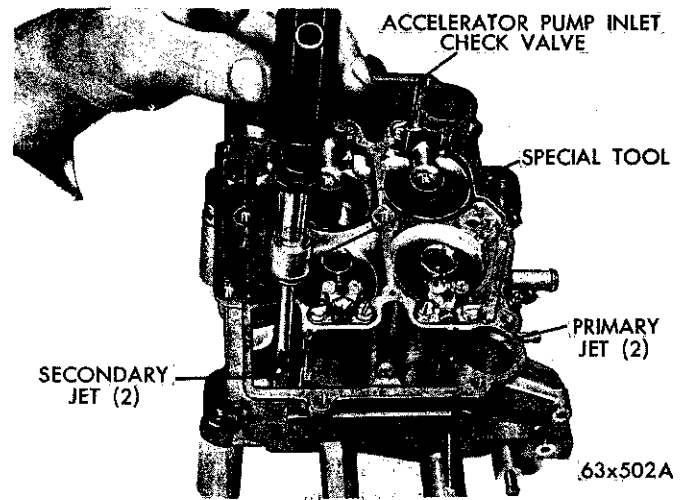

Fig. 4—Removing Main Metering Jets
(2) Using Tool T109-58 remove the main metering jets (secondary side), as shown in Figure 4.
(6) Install the primary and secondary main metering jets, using Tool T109-58. (See Fig. 4.) Tighten jets securely.
(7) Install the accelerator pump intake check ball assembly in position in the carburetor bowl. Tighten securely, using Tool T109-59.